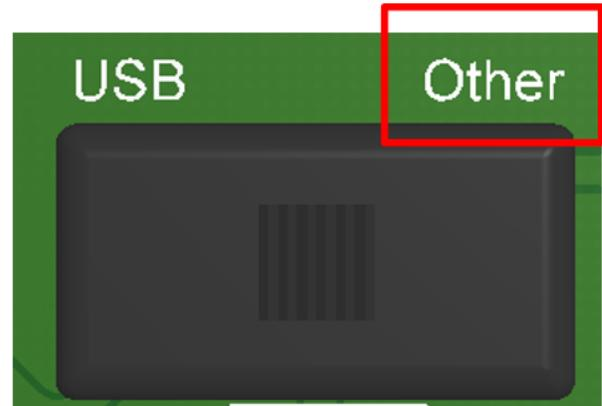

Figure 38. USB vs Other = 'Other'
- If you are going to power the programming board with an external power supply or wall socket, then set the switch to the “Other” state as shown in Figure 38